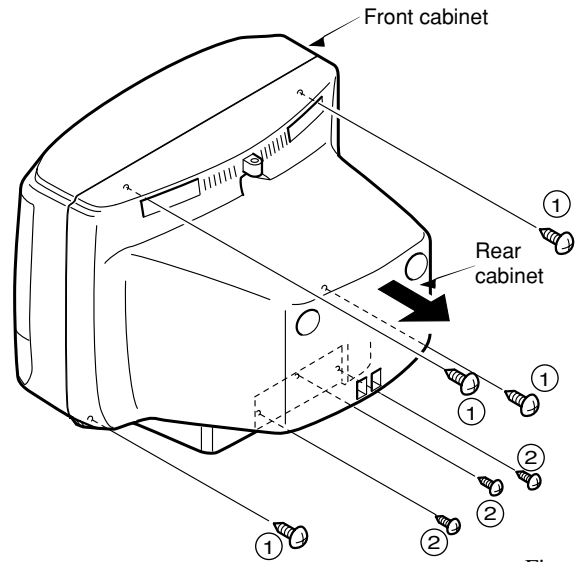

Figure 1-1
- (1) Remove four screws ①, and three screws ②, then remove the rear cabinet in the direction of the arrow. (See Figure 1-1)